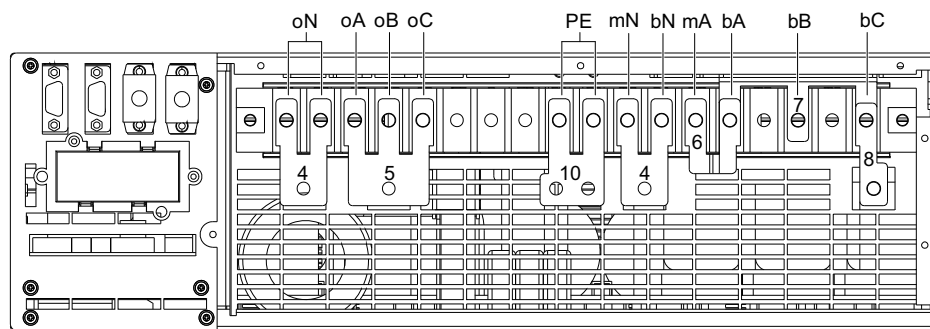

Figure 2-13 Shorted copper bar connection for the UPS I/O terminal block
2. As shown in Figure 2-13, you can short two PE terminals of the UPS I/O terminal block using the shorted copper bar 10 with insulating film, short the terminal bA, bB and bC using the shorted copper bar 7, short the terminal oA, oB and oC using the shorted copper bar 5, and short mA and bA terminals using the shorted copper bar 6 and then short mN and bN terminals, and two oN terminals using two shorted copper bars 4.
2. Connect the shorted copper bar 8 to one end of the shorted copper bar 7 (see Figure 2-13), and connect the live line (input phase A) to the shorted copper bar 8.